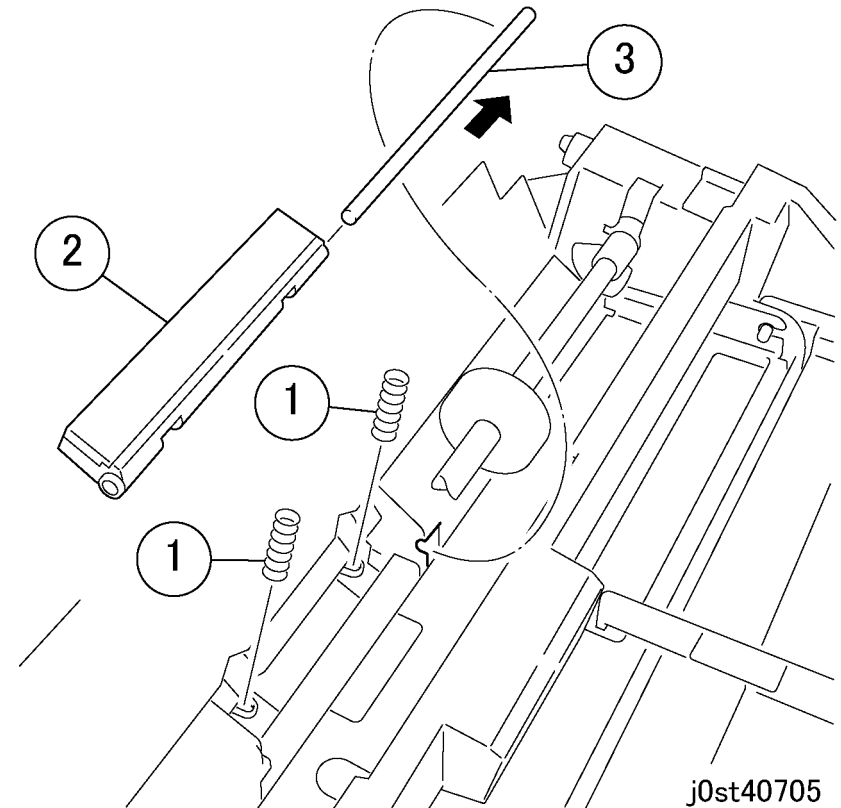

Figure 3 Removing the MSI Retard Pad
4. Remove the MSI Retard Pad. (Figure 3)